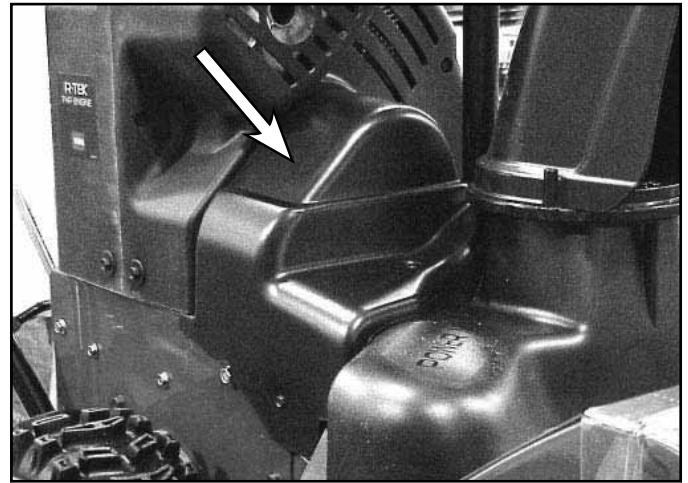

Fig 073
2. (All models) Remove the two-piece belt cover (Figs. 073 and 074).